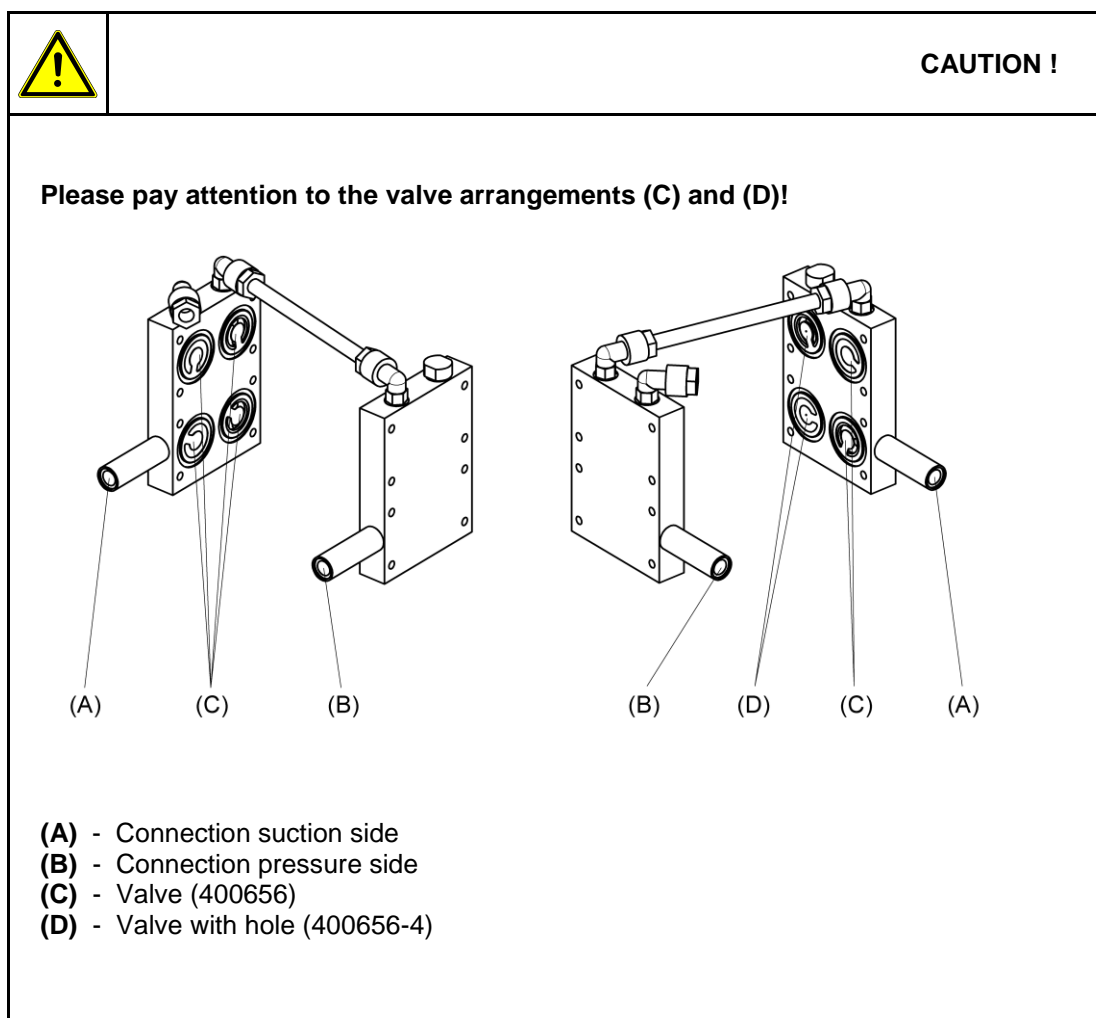

Fig. 10 Valve arrangement
- Valves **(4)** (see Fig. 10) and o-rings **(3)** are located between the connecting and the pump head. When dismantling both heads these parts are accessible.
- Clean the valves **(4)** (see Fig. 10), o-rings **(3)** and diaphragm **(6)** with a soft cloth and ace-tone and replace defective items if necessary.
- Insert the valves **(4)** (see Fig. 10) and the o-rings **(3)**.